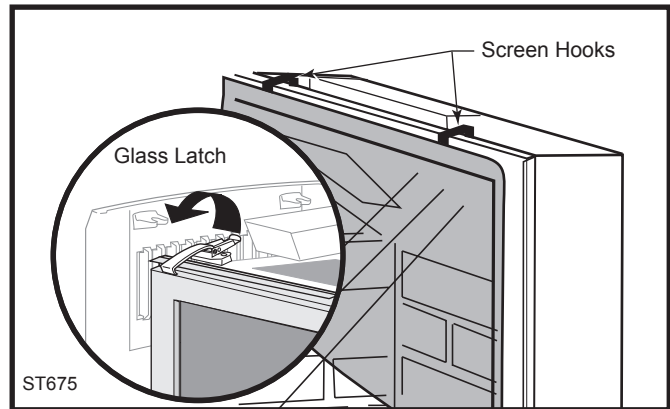

Fig. 35 Remove the screen or glass panel.
3. Remove the screen by lifting up and away from the unit. Or, if so equipped, remove the glass panel by releasing the two upper retainer latches. Lift the panel up and off of the firebox frame. (Fig. 35)